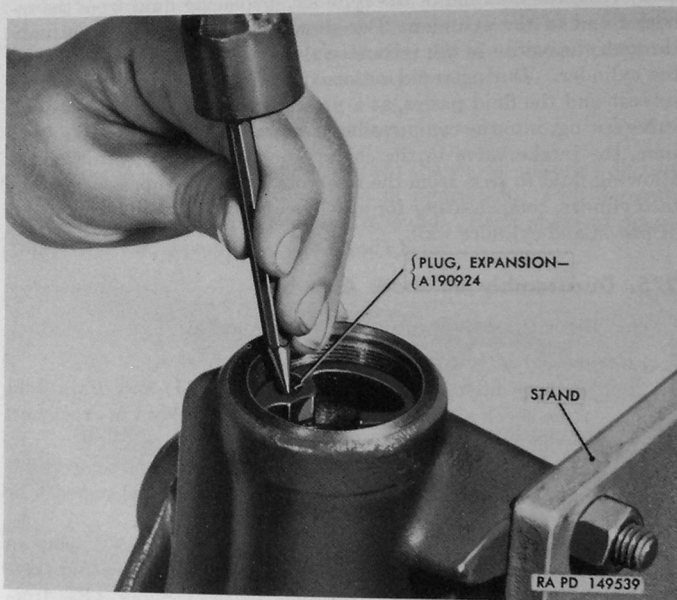

Figure 209. Removing piston screw expansion plug with shock absorber mounted in stand 41-S-4977-5.
(1) With shock absorber mounted in vertical position on shock absorber rebuilding stand 41-S-4977-5 (fig. 209), and with piston at top of cylinder use a sharp pointed punch to pierce expansion plug (C) and pry plug out of piston. Remove piston screw (D) and piston screw spring (E) from upper end of piston.